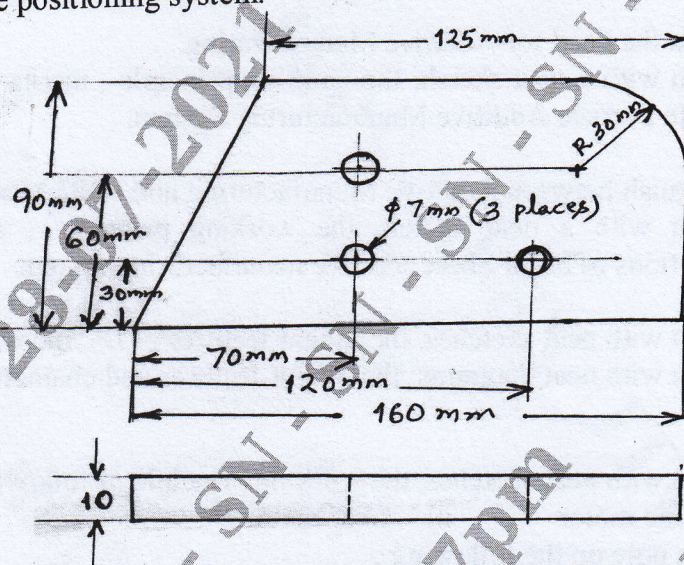

Fig. Q10(b) : A simple part depicting drilling operation
b. Write an NC part program for the part shown in Fig. Q10(b) depicting drilling operation.